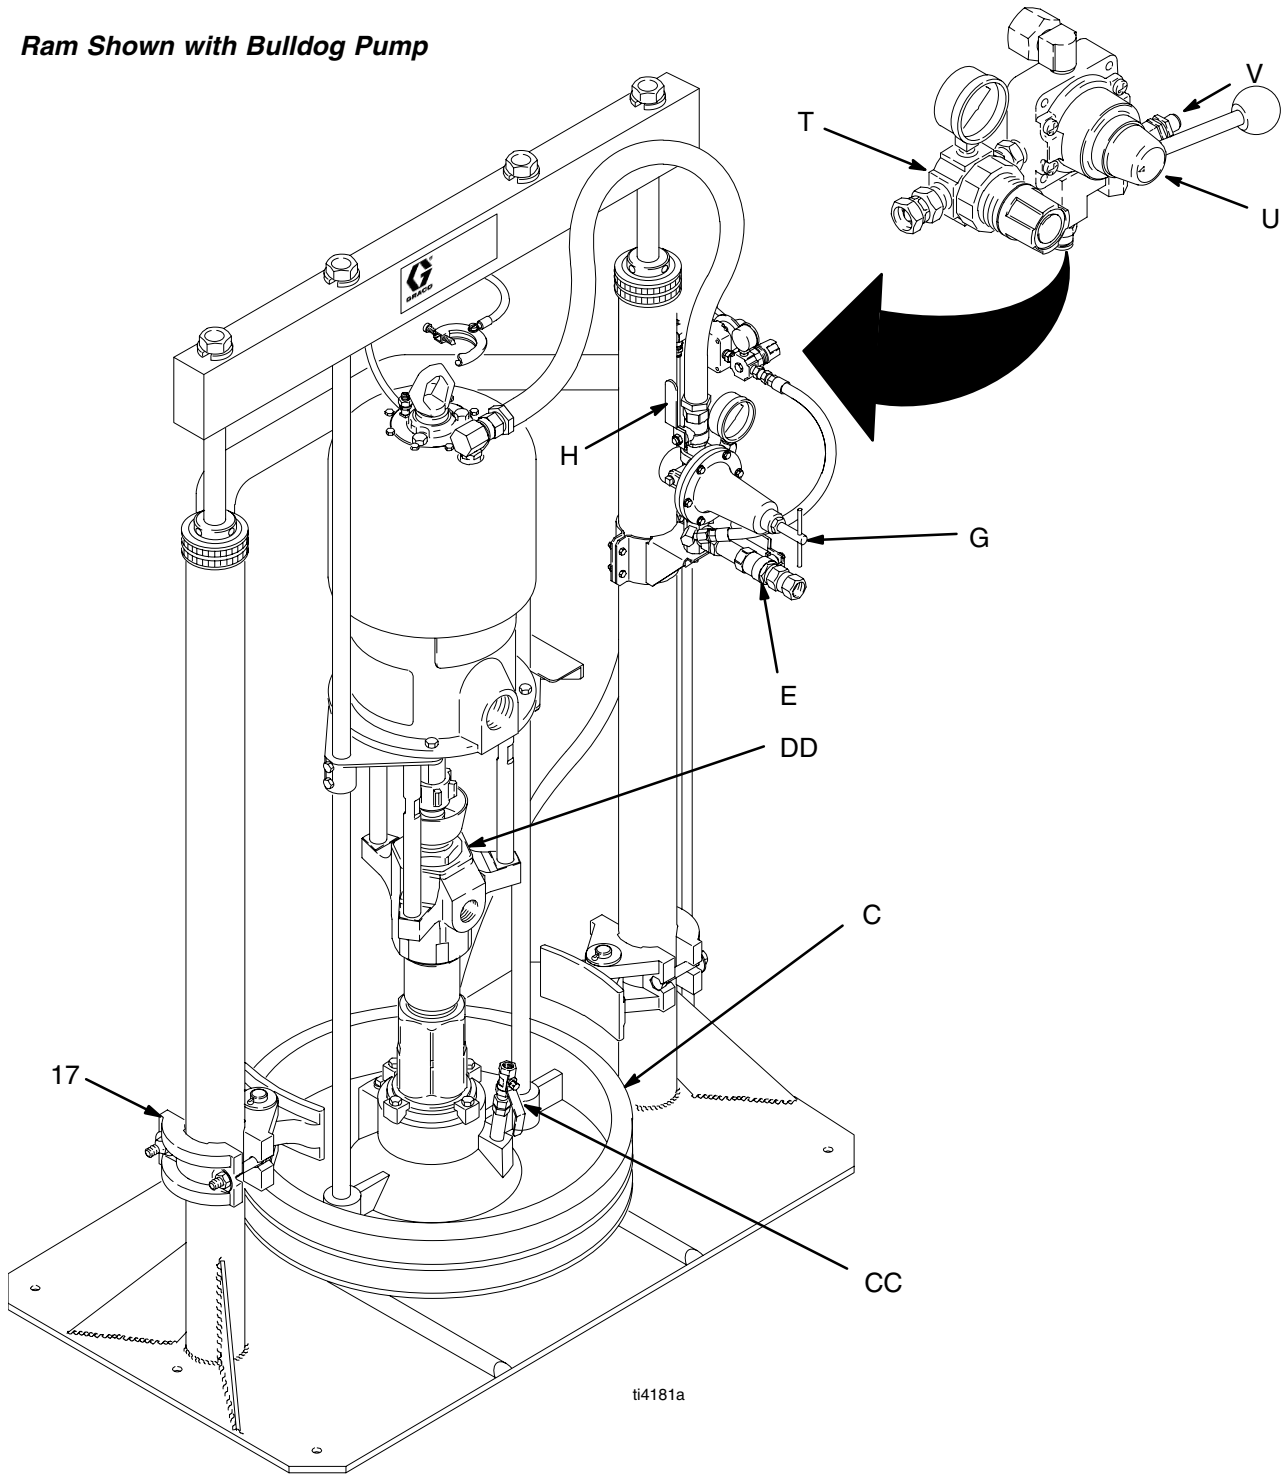

Fig. 7
1. Refer to Fig. 7. Close all air regulators and air valves.
2. Open the main air bleed valve (E) and set the ram air regulator (T) to 2.8 bar (40 psi). Pull up on the director valve (U) handle so the arrow points to UP, and let the ram rise to its full height.
3. Set a full drum of fluid on the ram base, slide it back against the tube stop, and center it under the wiper plate (C). Use the drum clamps (17) to center, hold, and properly align the drum with the ram. Then remove the drum cover and smooth the surface of the fluid with a straightedge.
1. Be sure the pump air regulator (G) is closed. Then set the ram air regulator (T) to about 3.5 bar (50 psi). Set the director valve (U) to DOWN. See Fig. 7.
3. Keep the director valve (U) set to DOWN while the pump is operating.